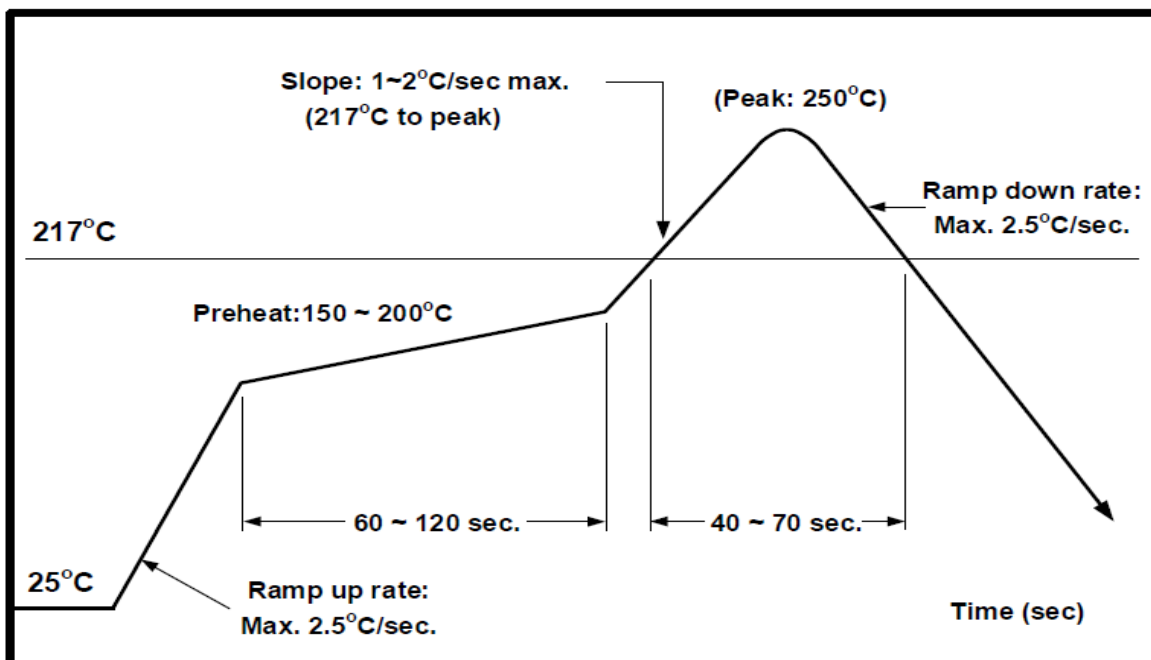

Figure 22 : Solder reflow profile
- Allowable reflow soldering times: Three times based on the reflow soldering profile as shown in *Figure 22*.
- Temperature profile: Reflow soldering shall be done according to the temperature profile as shown in *Figure 22*.